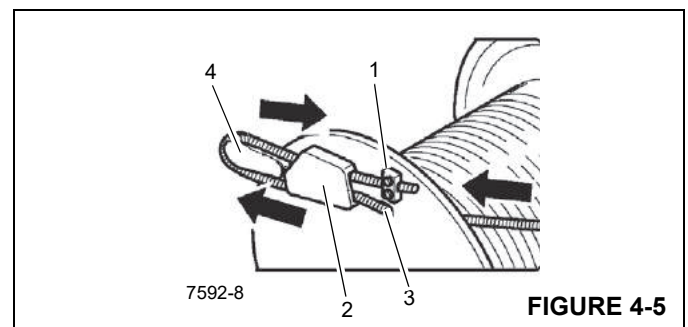

FIGURE 4-5
4. Guide the cable through the hole (3) (Figure 4-5) until it extends about 5.0 ft (1.5 m) beyond the pouch (2) (Figure 4-5).
5. Feed the free end of the cable back through the pouch (2) (Figure 4-5).
6. Secure the clamp (1) (Figure 4-5) and tighten it. Torque to 58 lb-ft (79 Nm).
7. Place the cable wedge (4) (Figure 4-5) in the loop.